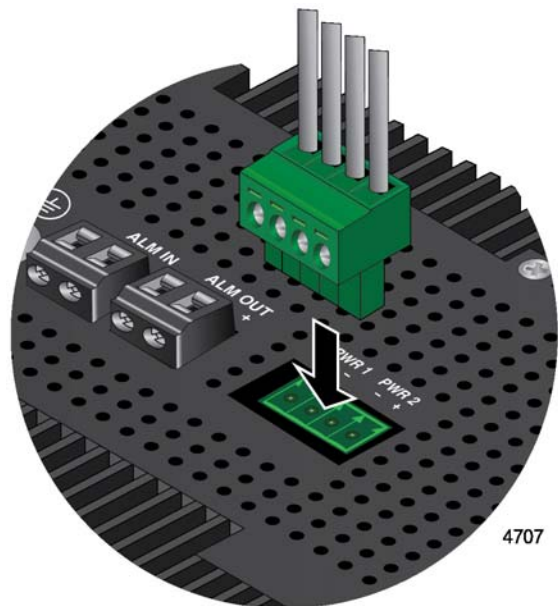

Figure 51. Connecting the Power Cable to the PWR 1 - PWR 2 Connector
2. Connect the power cable to the PWR 1 - PWR 2 connector on the top panel. Refer to Figure 51.